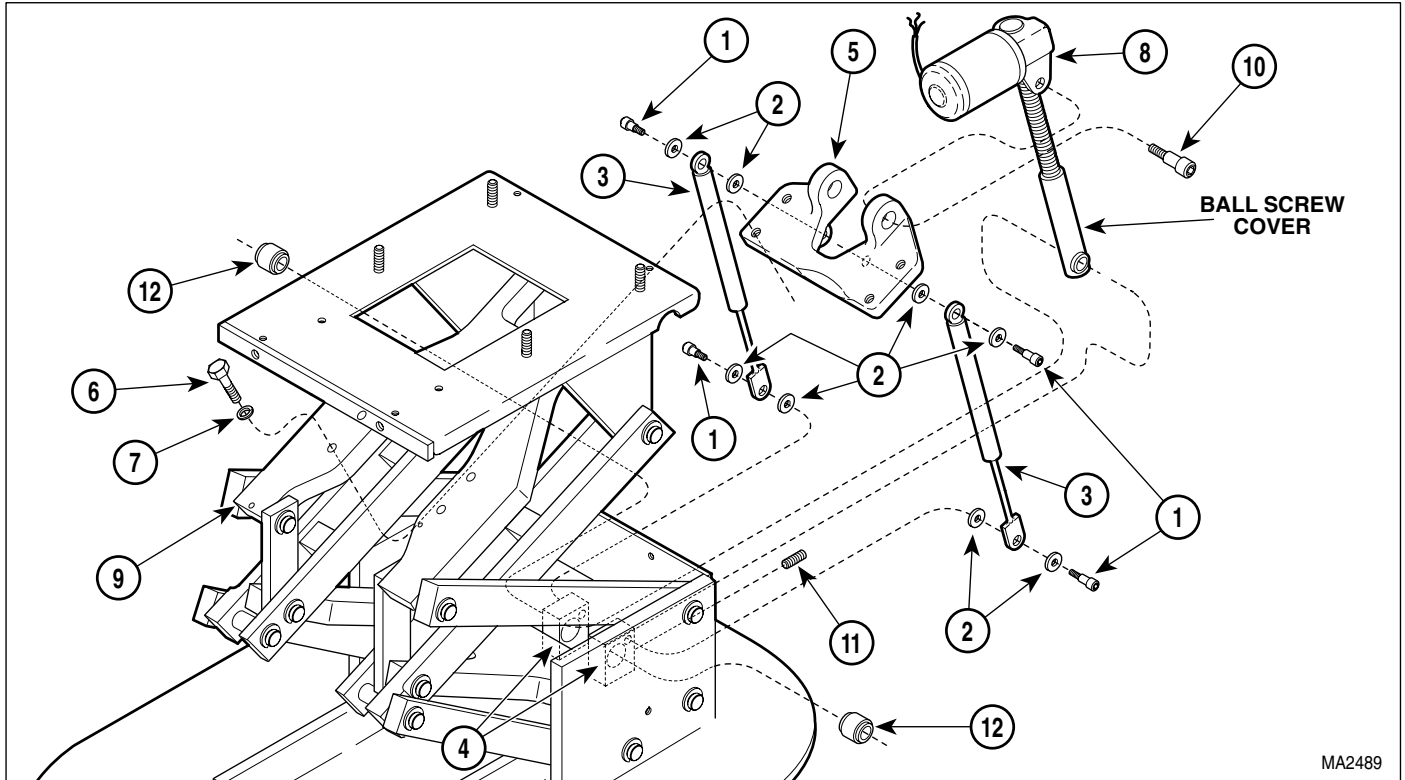

Figure 4-14. Base Actuator Assembly Removal / Installation
- (12) Remove two shoulder screws (1, Figure 4-14), four washers (2), and gas spring (3) from brackets (4 and 5). If applicable, repeat step for remaining gas spring.
- (1) If removed, install one bearing (12, Figure 4-14) in each bracket (4) and secure with a setscrew (11).
- (2) Coat threads of two shoulder screws (10) with removeable threadlocking adhesive (Loctite 242).
- (3) Install actuator bracket (5) on base actuator assembly (8) and secure with two shoulder screws (10).
- (4) Install base actuator assembly (8) on base subassembly (9) and secure with lockwashers (7) and four screws (6). Tighten four screws to 23 - 28 ft-lbs (31.2 - 38 N•m).
- (5) Coat four shoulder screws (1) and eight washers (2) with grease.